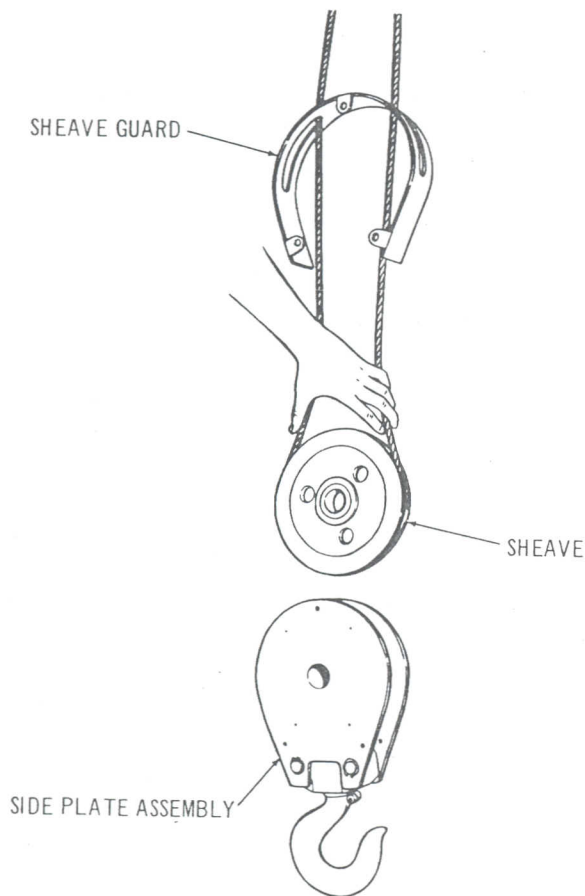

Figure 5-25. Installing Wire Rope in Single Reeved Bottom Block
**TWO PART SINGLE REEVING.** Proceed as follows to replace a two part single reeved wire rope (see Figure 5-24B and Figure 5-25):